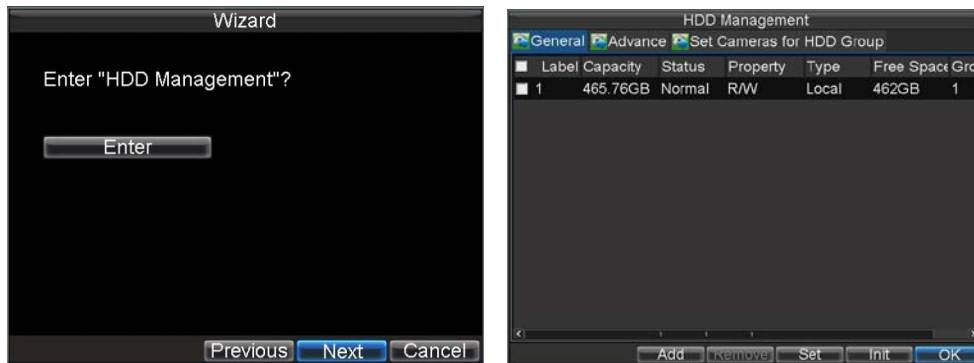

Figure6. HDD Management
11. Click *Next* button to enter the **HDD Management** dialog box, shown in Figure 6.